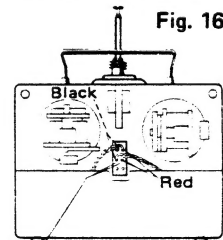

Fig. 16
- (2) Unsolder and disconnect the lead between the power switch and battery holder as shown in Fig. 16.
- (3) Connect and solder the power jack in the FBPK-10 to the 3PC red male connector, while being sure that the red and black leads are connected in the correct position. Remove the plate at the position where the charger power jack is to be installed using needle nosed pliers.